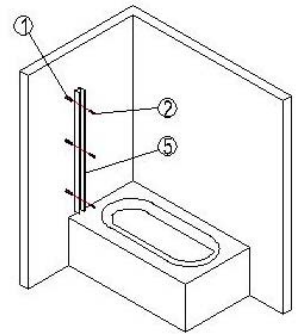

Fig.2
Step1. Insert the glass screen (#6 in Packing List) into the wall profile (#5 in PL), place the assembled glass screen at the installation position on the tub, check and calibrate it with spirit level to make sure it is vertical both to wall and floor. Mark the holes for the wall profile (#5 in PL) with pencil, then remove the glass screen (#6 in PL) and drill holes. Fasten the wall profile (#5 in PL) to the wall tightly with wall plug (#1 in PL) and ST4*40 screw (#2 in PL). (See fig.2)